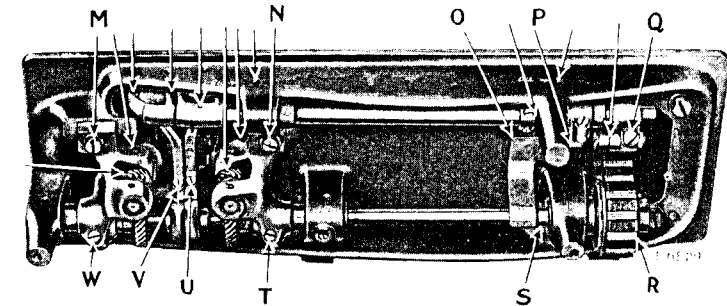

Fig. 5. Base of Machine, Showing Oiling Points
Turn the machine back on its hinges and apply oil at the places designated by arrows as shown in Fig. 5, and all other
The gathering feed is regulated by means of the hexagon nut (P, Fig. 5, page 5) in the slotted lever underneath the bed of the machine. To increase the gather of the material, loosen the hexagon nut (P) and move it upwardly in the slotted lever, until the desired effect is produced. For less gather of the material, move the hexagon nut (P) downwardly in the slot. When the desired amount of gather of the material is obtained, firmly tighten the hexagon nut (P).